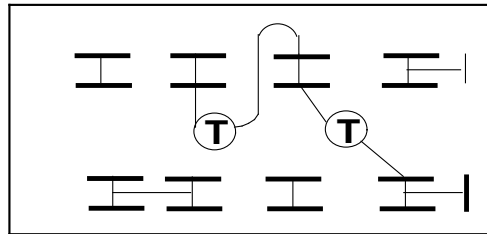

Fig. 9 Wired for 220VAC Operation
Step 1: Wire Power Transformer Terminal block as illustrated in Figure 9.